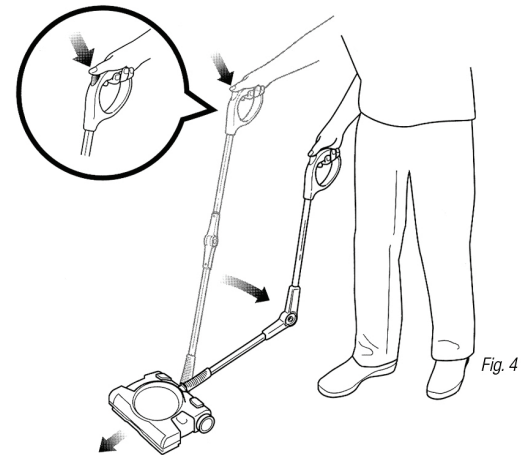

Fig. 4
- 5 The Shark® Backsaver™ folding handle makes cleaning under furniture a breeze. Just press the button on the handle with your thumb to engage the Shark® Backsaver™ function. (fig. 4)
- 2 Insert the charger plug into the hole on the back of the unit. Plug the charger into a wall outlet. The light next to the power button will illuminate when the unit is charging. If the unit is plugged in and the light is not illuminated, press the power button once. The light should now be illuminated indicating that the unit is charging. The light will turn off once the charge is completed. (Fig. 4)